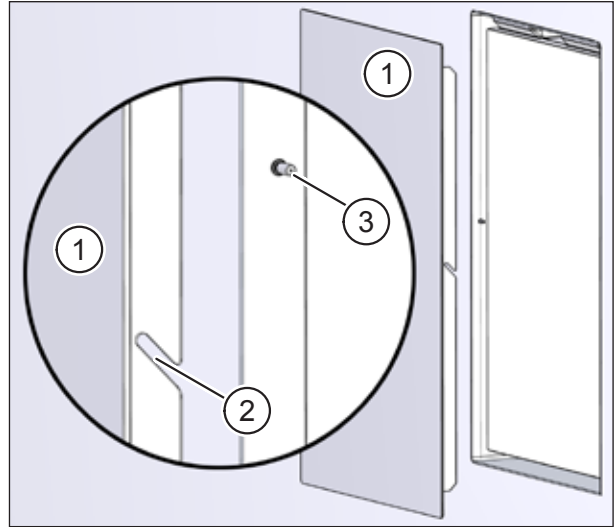

Fig. 52: Attaching the U² cover plate
- Remove remaining plaster and other soiling so that the U² cover plate (item 1 in Fig. 52) can lie against the internal wall without gaps.
- ▶ Carefully lower the cover plate. The recesses (item 2 in Fig. 52) on the retaining plates slide around the pins (item 3 in Fig. 52) of the wall box frame.